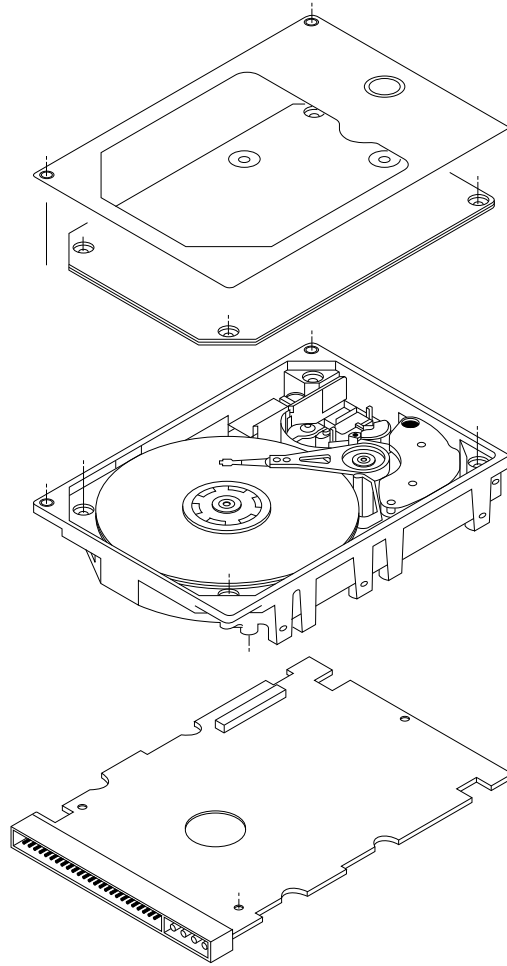

Figure 3.0-1. Hawk 2LP family drive
Refer to Figure 3.0-1 an exploded view of the drive. NEVER disassemble the Head/Disc Assembly (HDA). This exploded view is for information only. Do not attempt to service items in the sealed environmental enclosure (heads, media, actuator, etc.) as this requires special facilities. The drive contains no parts replaceable by the user. The drive warranty is voided if the HDA is opened.
- Front panel (green LED) - See Figure 3.0-1
- Front Panel Kit (with green LED) - See Figure 3.0-1